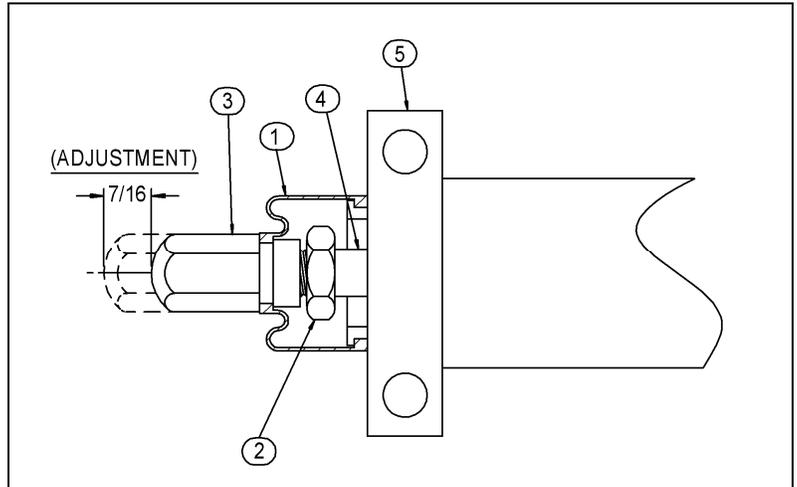

Figure 11: Loosen Lock Nut
2. Remove the Protective Boot (Item 1) from the Limit valve (see Figure 11).
3. Loosen the Lock Nut (Item 2) and back the nut away from the nubbin shaped Adjusting Cap (Item 3). (See Figure 11)